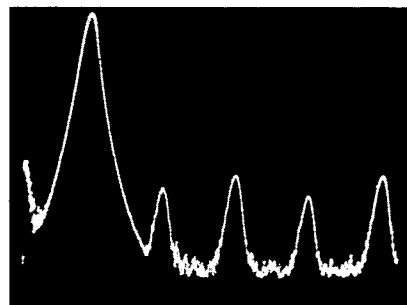

Figure 5-6. Sine Distortion Adjustment: 999 Hz
- 11.6** Adjust 3rd harmonic with A10R227 and 2nd harmonic with A10R206 for minimum (Figure 5-6). Verify that these levels are $42 \text{ dB}/47 \text{ dB}$ below fundamental or lower.